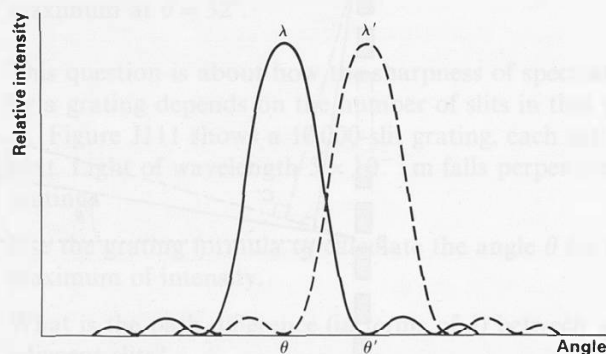

Figure J114
- h** Suppose that the incident light contains another wavelength, λ' , slightly greater than λ , which produces a 1st order maximum at θ' just where the original wavelength gives no resultant. According to Rayleigh's criterion, we can say that the two maxima are *just resolved*; see figure J114.